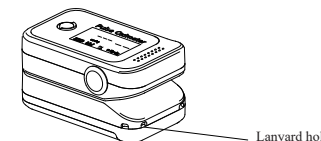

Figure 4
1. Thread the thinner end of the lanyard through the lanyard hole. The position of the lanyard hole is shown in **Figure 4**. (Notice: the lanyard hole is on both sides.)